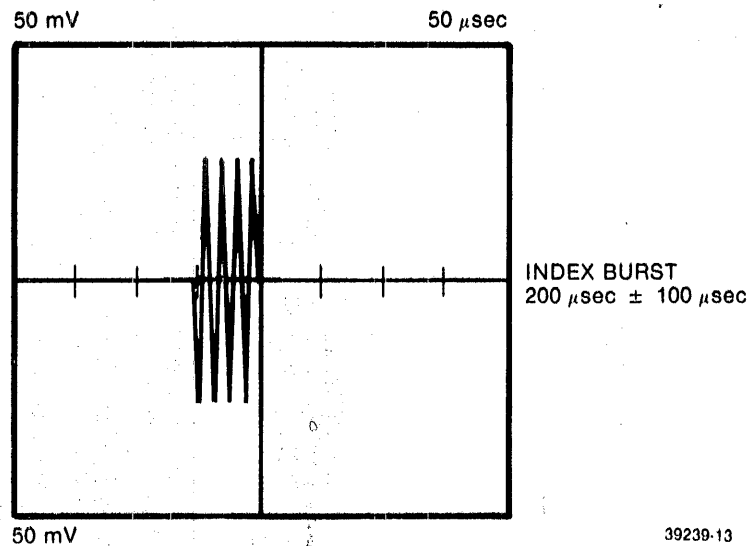

FIGURE 5-10. INDEX BURST
- f. Observe timing between start of sweep and first data pulse. This should be  $200 + 200/-100 \mu\text{sec}$ . If timing is not within tolerance, continue on with adjustment. See figure 5-10.